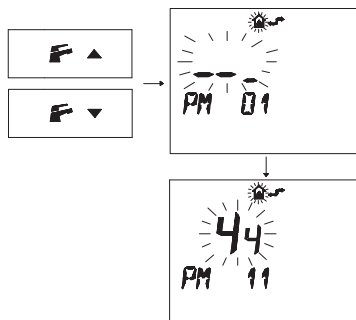

Fig. 7.34
- Press buttons  or  to display the "PM11" program of the pump post-circulation (Fig. 7.34).